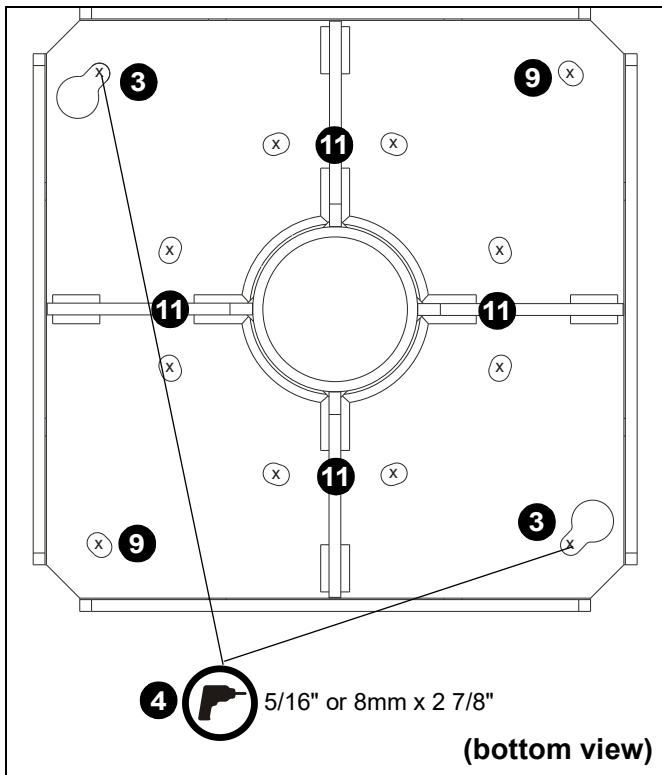
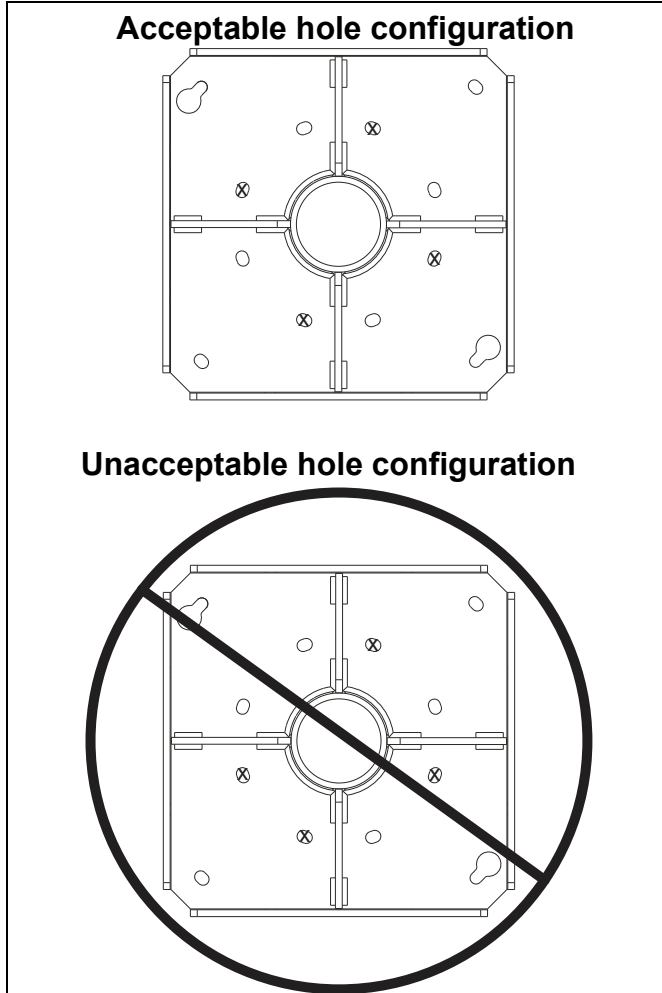

Figure 2
Figure 5
3. Mark two locations of outside keyhole-shaped holes. (See Figure 2)
4. Drill two 5/16" or 8mm holes with a depth of 2 7/8" at each marked mounting hole location. (See Figure 2)
9. Mark and drill two 5/16" or 8mm holes with a depth of 2 7/8" for two remaining outside holes. (See Figure 2)
11. Mark and drill four 5/16" or 8mm holes with a depth of 2 7/8" in four of eight inside holes where remaining anchors will be installed making sure the following rules are followed. (See Figure 2) and (See Figure 5)